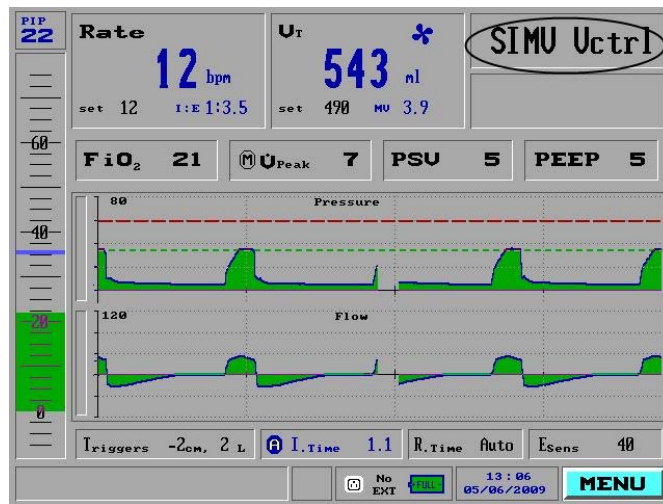

Figure 30: The Mode Selection Menu Selected
The **Mode Selection** option is on the top right side of the LCD display (Figure 30):
2. From the **Main** screen, turn the Control Knob to select the **Mode Selection** option, as shown in Figure 30. By default, the iVent™201 starts in SIMV Volume Control, abbreviated “SIMV Vctrl.”